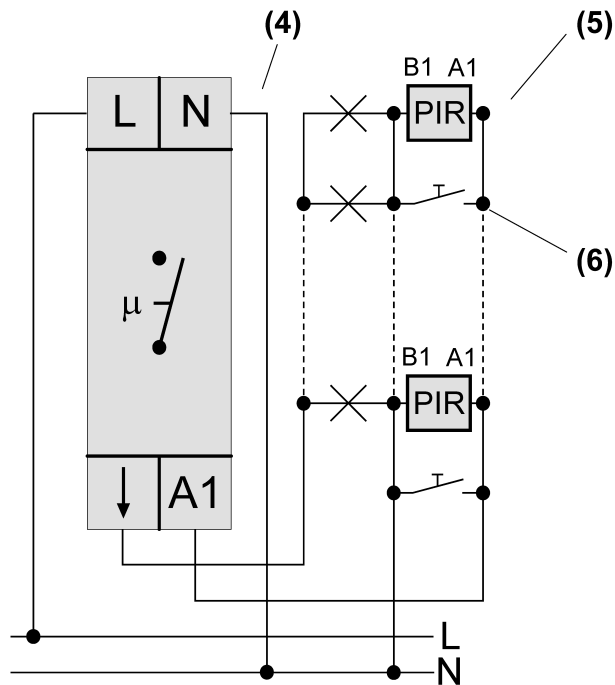
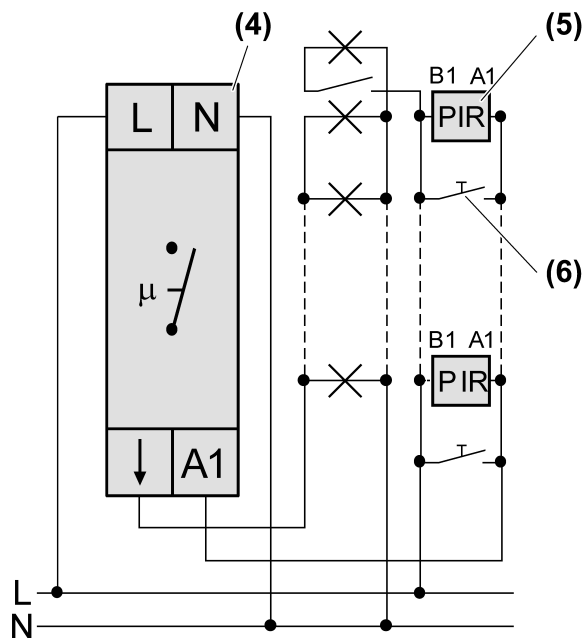
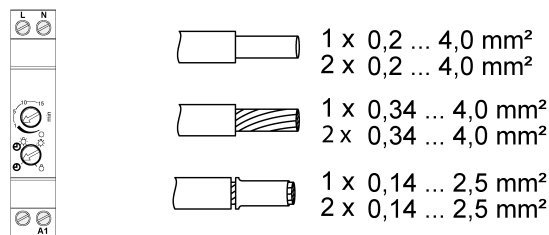
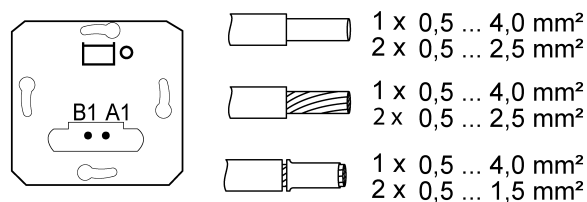

Figure 2: Connection diagram for 3-conductor circuit
Figure 3: Connection diagram for 4-conductor circuit
Figure 4: Clampable conductor cross-section automatic RMD
Figure 5: Clampable conductor cross-section pulse insert
The automatic RMD can be used for a 3-conductor circuit (Figure 2) or a 4-conductor circuit (Figure 3). The 4-conductor circuit has the advantage that an additional luminaire can be switched separately.
- Note clampable conductor cross-sections automatic RMD (Figure 4) and pulse insert (Figure 5).
- Mount automatic RMD (4) on DIN rail.
- Connect automatic RMD (4), pulse insert (5) and push-button (6) according to connection diagram (Figure 2) or (Figure 3).